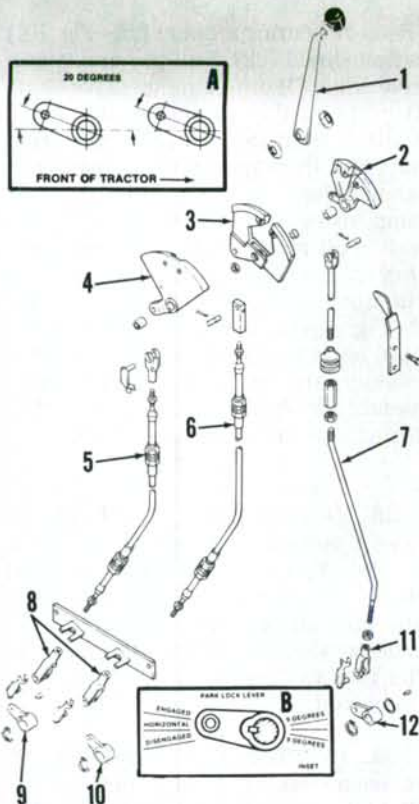

Fig. 97—Exploded view of four-speed shift linkage and park lock linkage on Model 2090 and 2290 tractors so equipped.
103. FOUR SPEED TRANSMISSION. To adjust shift linkage on four speed transmission gears, first disconnect the control cable yokes (8—Fig. 97). Place the gear shift lever (1) in neutral position. Place the speed shift levers (9 and 10) in neutral position (20 degrees above horizontal as shown in insert A—Fig. 97). Adjust position of cable yokes (8) so that yoke holes align with shift lever holes. Install yoke pins and secure yokes.